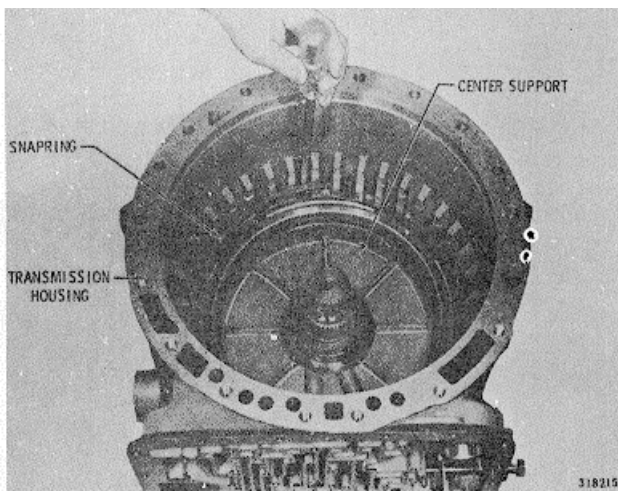

Fig. 7-25. Installing center support snapping
(5) Install the special 3/8-16 x 3-inch (2 1/4-inch in earlier models) anchor bolt and plain washer, finger-tight. Remove the lifting bracket.
(6) Install the snapping, selected in paragraph 7-4b(7), that retains the center support assembly (Fig. 7-25). The gap of the snapping should be toward the top of the transmission.
(7) Position the transmission rear upward, and remove the two bolts and compressor bar from the adapter housing.